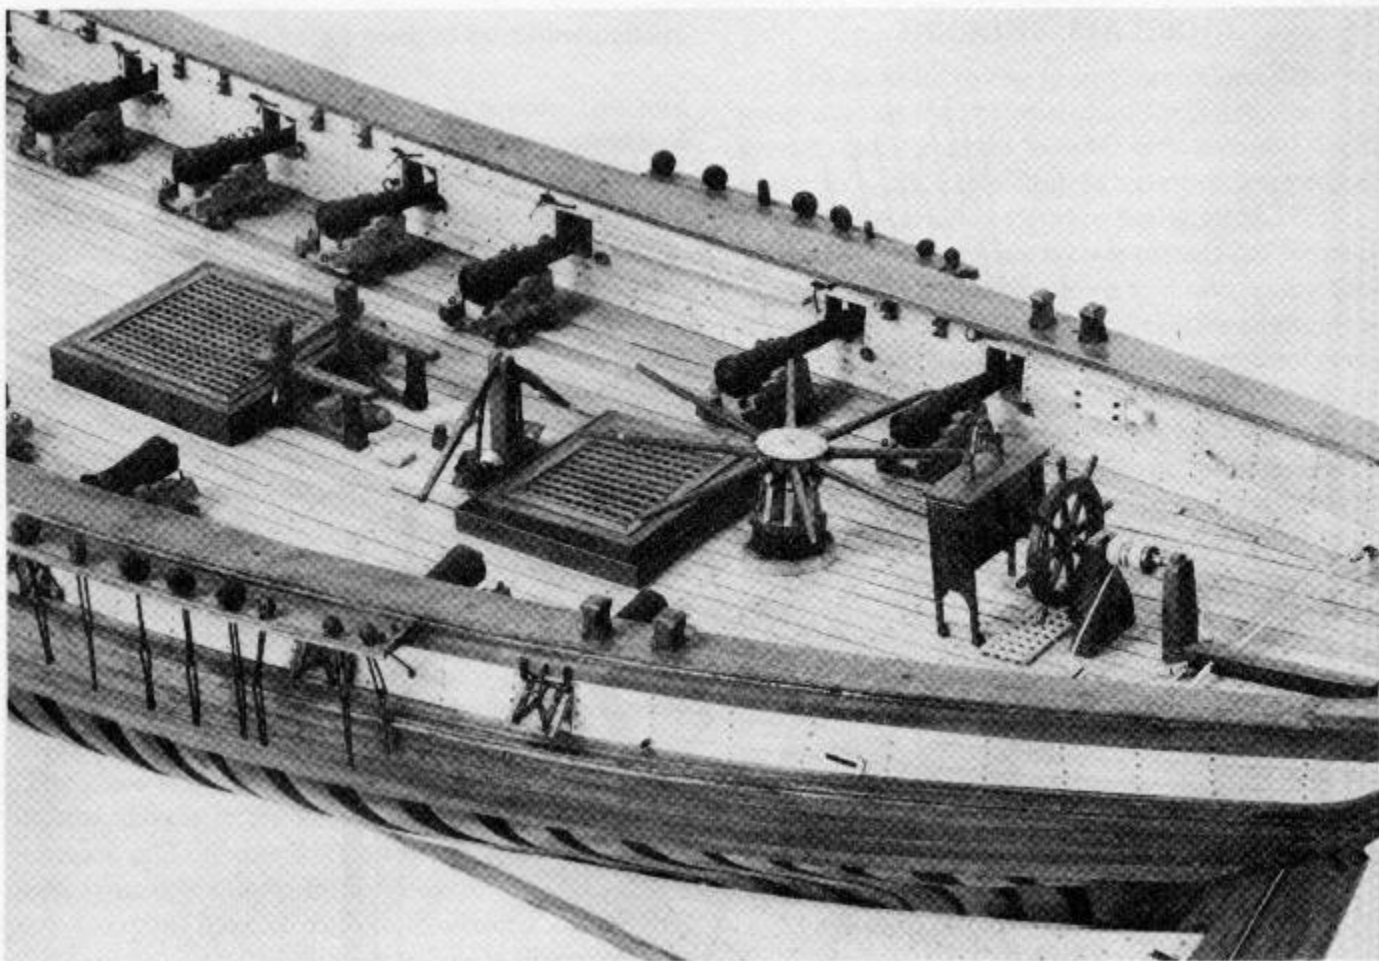

Fig. 11-8. Bow and deck details of an 18-gun brig of war by Portia Takakjian (Photo by Steve Sagala).
*Deck furniture* consists of those parts of a ship model that are not part of the deck (FIG. 11-8). You will need strong fife rails placed at designated areas according to your model's plan. Cabins, skylights, hatches, companionways, and grates might fall into this grouping. Binnacle and steering apparatus can loosely be classed as deck furniture. If it penetrates through or rises above the deck, or is a structure that is not the deck or parts of the hull, you can call it furniture.